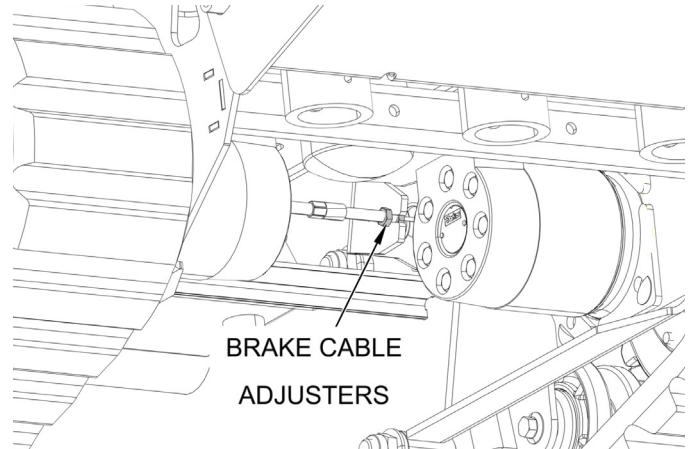

Figure 5-1. Brake Adjustment Location
8. Loosen the nuts on the parking brake cable adjuster. Turn the adjuster until the cable is taught, not tight. See Figure 5-1.